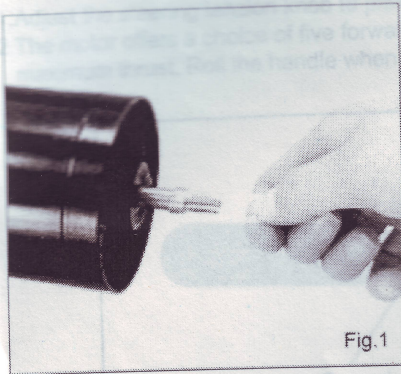

Fig.1
1. Take off the tube from the shaft. (See Fig.1)